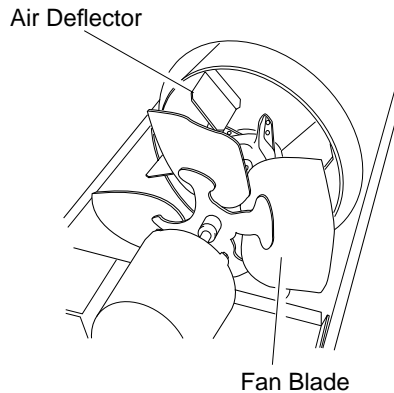

Figure 6 - Fan Blades and Air Deflectors
2. Clean fan blades and air deflectors with clean, soft cloth moistened with kerosene or solvent (see Figure 6).